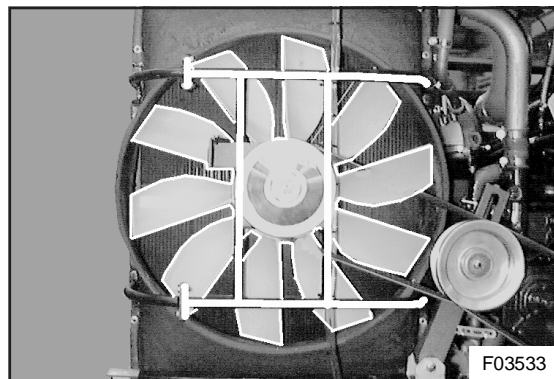

Figure 18: Engine cooling fan assembly
19. With the aid of an assistant, withdraw the upper carrier retaining screws and lift out the engine cooling fan assembly from the radiator cowl (see Figure 18).